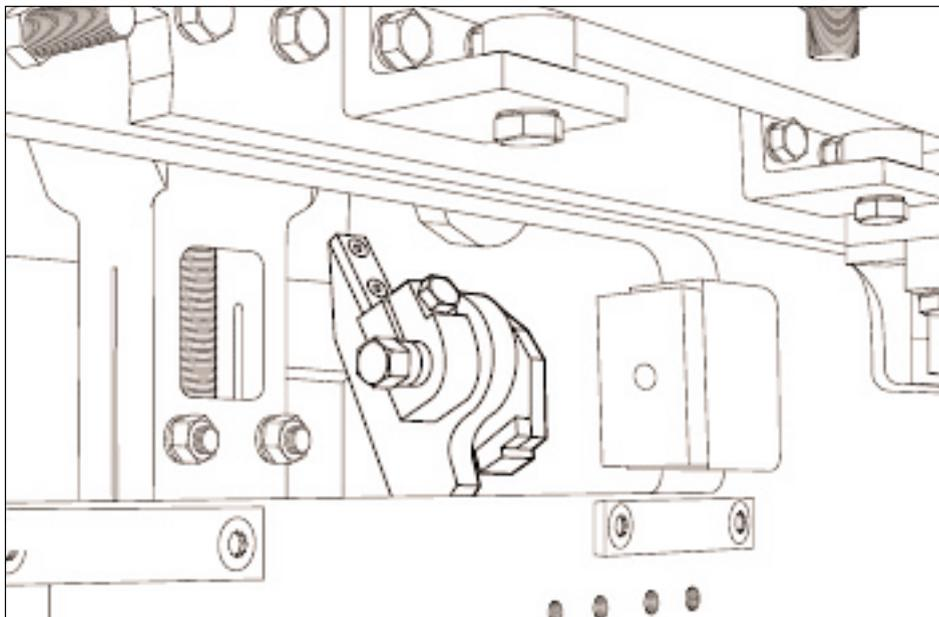

Figure 5.6 MOLD LOCKS IN OPEN POSITION (LEFT LOCK SHOWN).
- 5.3.25 Open mold locks (left and right) as shown in figure 5.6.